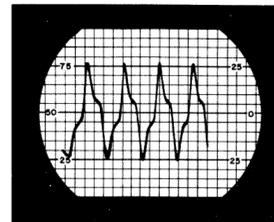

Figure 2.
(1) Adjust the 1000 cps input signal to 1.5 volt. This should drive the IDC circuit into full clip. See figure 2.
(2) With this input signal level adjust the IDC control on the transmitter to provide a peak-to-peak recovered signal on the oscilloscope of 10 squares, which is equivalent to  $\pm 5$  kc deviation as shown in figure 2. A wide-band system should be adjusted for 30 squares ( $\pm 15$  kc). If the waveform under the above conditions does not resemble the waveform shown in figure 2 adjust L101 until a symmetrical waveform is obtained. Re-adjust the IDC control.
(3) Reduce 1000 cps input to 0.3 volt. Essentially full deviation should still be observed on the oscilloscope. Less than 2/3 full deviation will indicate a weak audio transistor or other lack of audio gain.
(1) Remove "Vibrasponder" resonant reed from its socket.
(2) Adjust the 1000 cps input signal to 1.5 volts. This should drive the IDC circuit into full clip. See figure 2.
(3) With this input signal level adjust the IDC control on the transmitter to provide a peak-to-peak recovered signal on the oscilloscope of 10 squares, which is equivalent to  $\pm 5$  kc deviation as shown in figure 2. If the waveform under the above conditions does not resemble the waveform shown in figure 2, adjust L1 until a symmetrical waveform is obtained. Readjust the IDC control.
(4) Reduce the 1000 cps input to 0.3 volt. Essentially full deviation should still be observed on the oscilloscope. Less than full deviation may indicate a weak audio transistor or other lack of audio gain.
(5) Remove the 1000 cps tone signal. Insert the "Vibrasponder" unit in its socket.
(6) Check the "Private-Line" tone deviation. This may be read directly from the oscilloscope by pressing the transmitter push-to-talk switch on the test set. The tone deviation should be 0.5 to 1 kc.